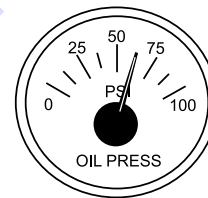

Figure 37. Oil Pressure Gauge
- The engine oil pressure gauge (Figure 37) will indicate the oil pressure of the engine. Under normal operating conditions the oil pressure is approximately 50 psi. (345 kPa).